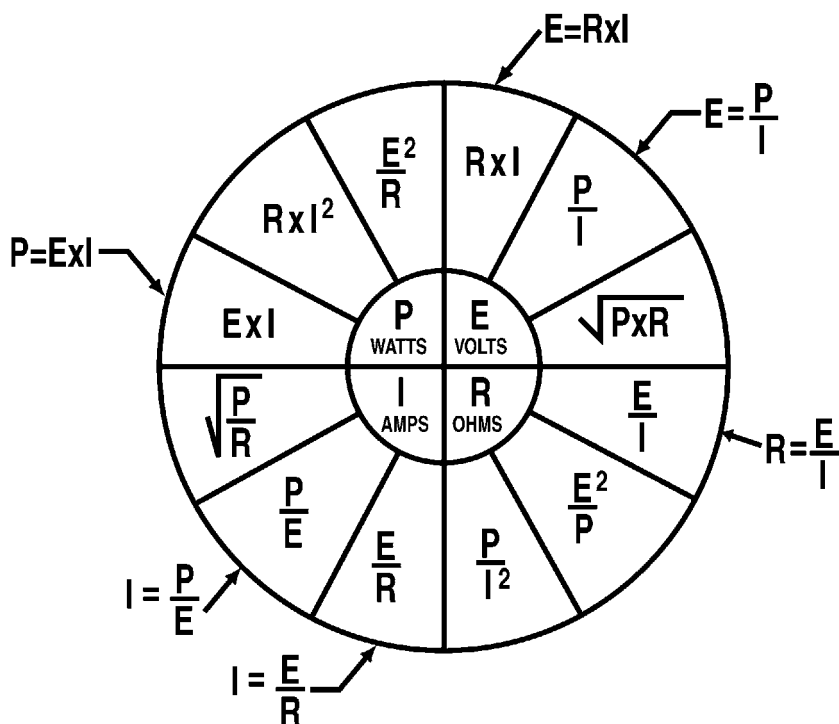

Figure 11.1 The formulas wheel gives every permutation of the relationships between voltage, amperage, wattage, and resistance.
Figure 11.1 shows the formulas wheel that gives all the possible relationships between voltage, wattage, amperage, and resistance. Figure 11.2 shows an easy way to remember these relationships.
Figure 11.2 A simple way to remember the most common equations in Figure 11.1 is to use “magic circles.” On either of the circles shown, cover the symbol you want to find with your finger. The relationship that remains is the formula. For example, to determine amperage (I) from a known resistance (R) and voltage (E), put your finger on the I and read E divided by R . To determine wattage (W) from amperage and voltage, put your finger over the W and read I times E .